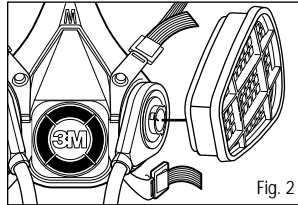

Fig. 2
2. Turn cartridge clockwise to stop (1/4 turn). (Figure 2)
2. Engage back snap by squeezing back side of cartridge and adapter together using the same hand positions. An audible click should be heard as each snap is engaged. The 3M 502 adapter should not be removed or reused once engaged as it is not designed for reuse and leakage may occur. (Figure 2)
2. Twist each branch of breathing tube clockwise a quarter turn until it is firmly seated in the bayonet and cannot be turned further. Do not forcibly overturn as the bayonet could be damaged. (Figures 2 and 3) 3M SA-1500/SA-1600 breathing tube shown.
3. Make a selection of cartridge and/or filter that meets your respiratory protection requirements, and attach to outer bayonets of 3M SA-1600 or SA-2600 dual airline breathing tubes. (Figure 2)
2. Take bottom straps in both hands, place them in back of your neck, and hook them together. (Figure 2)